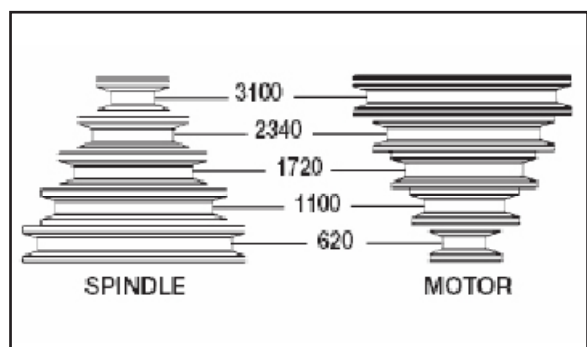

Figure 26
5. Place the belt on the pulleys in relation to the speed chosen on the speed selection chart starting with the motor pulley first. Fig. 26.